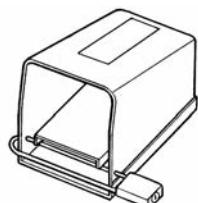

Figure 1 – Locked Foot Switch
- Lock foot switch when not in use. (See Figure 1.) Avoids accidental starting.